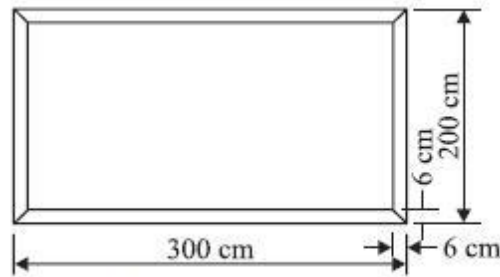

Fig. 5.28. Welded frame
- 13 A rectangular frame shown in Fig. 5.28 is to be made using plates of 300 cm × 6 cm × 4 mm BT4 and 200 cm × 6 cm × 4 mm sizes. Analyze the cost of filler metal and gases used to make 100 frames. The following data is available for leftward welding:
- (16)